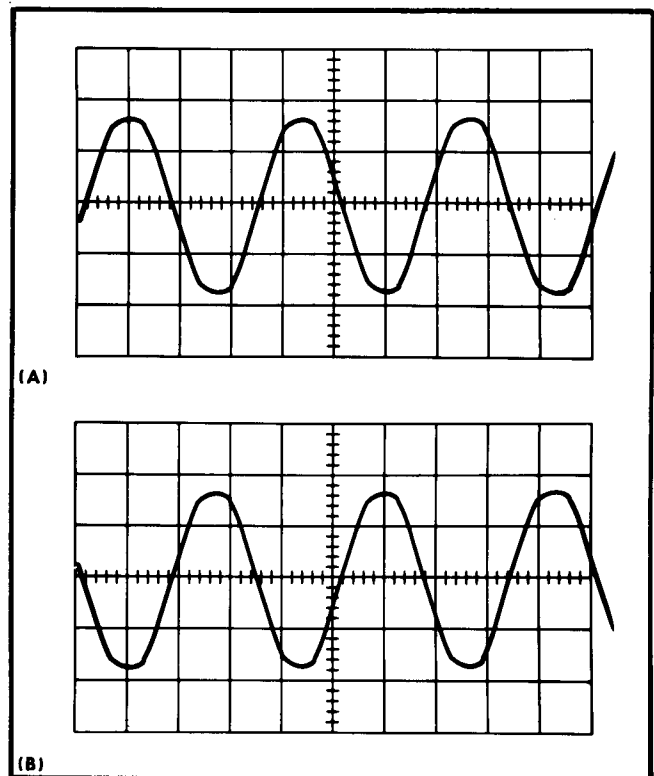

Fig. 5-10. Typical CRT display showing correct operation of the SLOPE switch. (A) SLOPE switch set to +, (B) SLOPE switch set to − position.
- f. Check—Slope of the display must correspond to the + and — settings of the SLOPE switch (see Fig. 5-10).